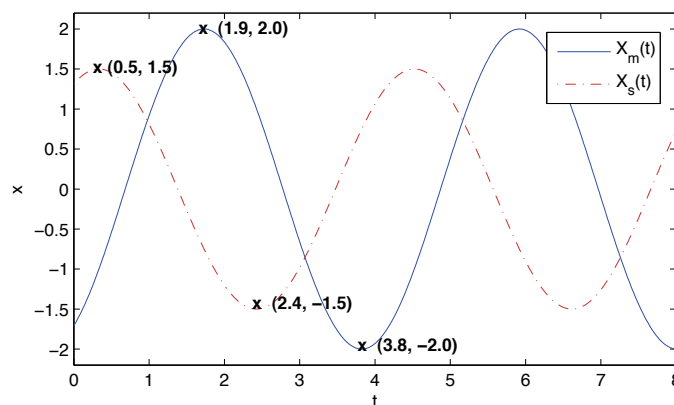

Figure 1.1: Sample lab data.
5. Find the period T , support amplitude of motion $A_{support}$, mass amplitude of motion $A_{response}$, and phase difference ϕ for the curves in Figure 1.1.